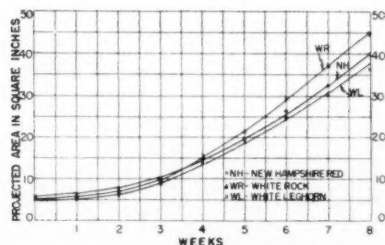

Fig. 6 Projected area of three breeds of chicks
chick at weekly intervals. The chick was placed on a calibrated floor area in a screen pen and was photographed from directly above. The average projected area for three chicks from each of the three breeds of chicks photographed is shown in Fig. 6. The area for each week was taken from the photograph with a planimeter.
The above energy requirements for chicks from one to 70 days old was fitted to the equation $E=2.92e^{0.0147t}$, where E =Btu per 24 hr per deg F below critical temperature and t =age in days. Suppose that it is desirable to estimate the energy requirements for a one-week-old chick with a brooder house temperature of 50 F. According to Barott and Pringle (18, 19) the optimum brooding temperature for chicks one day of age is 94 F which decreased 0.8 F per day for the first 18 days to 18th day and further decreased 1 F per day until a temperature of 66 F was reached on the 32nd day of brooding. Then the optimum temperature for brooding chicks one week old is 88.4 F. $88.4 \text{ minus } 50 = 38.4$ which is the temperature in the brooder house below the critical brooding temperature. By substituting the age of 7 days in the equation $E=2.92e^{0.0147t}$, we get 3.23 Btu per deg below 88.4 F. Multiplying 3.23 by 38.4 we obtain 124 which is the Btu requirements per 24 hr for a one-week-old chick. By referring to Fig. 6, we find that the projected area of a one-week-old chick is about 6 sq in. Dividing 124 by 6×24 we get 0.86 Btu per sq in per hr, or 0.26 w per sq in of chick projected area as compared with 0.24 w per sq in of radiant energy at the center of the comfort zone, in Fig. 5 (2). Further calculations may be made using different brooder-house temperatures and different ages if desirable.
The projected area data shown in Fig. 6 may be used to estimate the number of one-week-old chicks that can be brooded under a given heat lamp. The zone of comfort of a